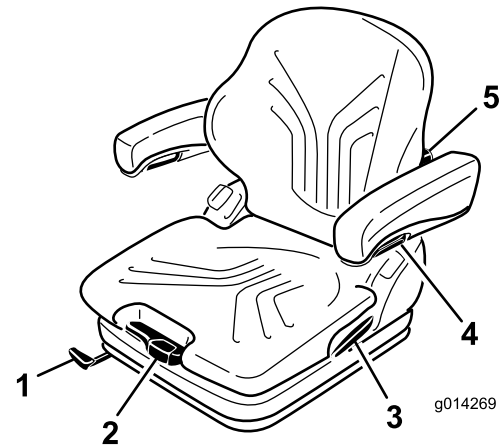

Figure 11
The seat is adjusted for the driver's weight by pulling or pressing the weight adjustment lever (Figure 11).
1. To adjust, lift the lever to unlock the seat (Figure 11).
By turning the adjustment knob upwards, the curvature in the upper part of the backrest cushion can be adjusted. By turning the knob downwards, the curvature in the lower part of the backrest cushion can be adjusted (Figure 11).
To adjust the armrests for height, separate the round cap (Figure 11) from the cover, loosen the hexagon nut (13 mm) behind it and adjust the armrests to the desired position and tighten the nut. Replace the cap onto the nut.
To adjust the angle of the armrests, turn the adjustment knob (Figure 11).
Pull up the locking lever to release the backrest catch (Figure 11). When releasing the backrest catch, do not apply load to the backrest by pressing against it.